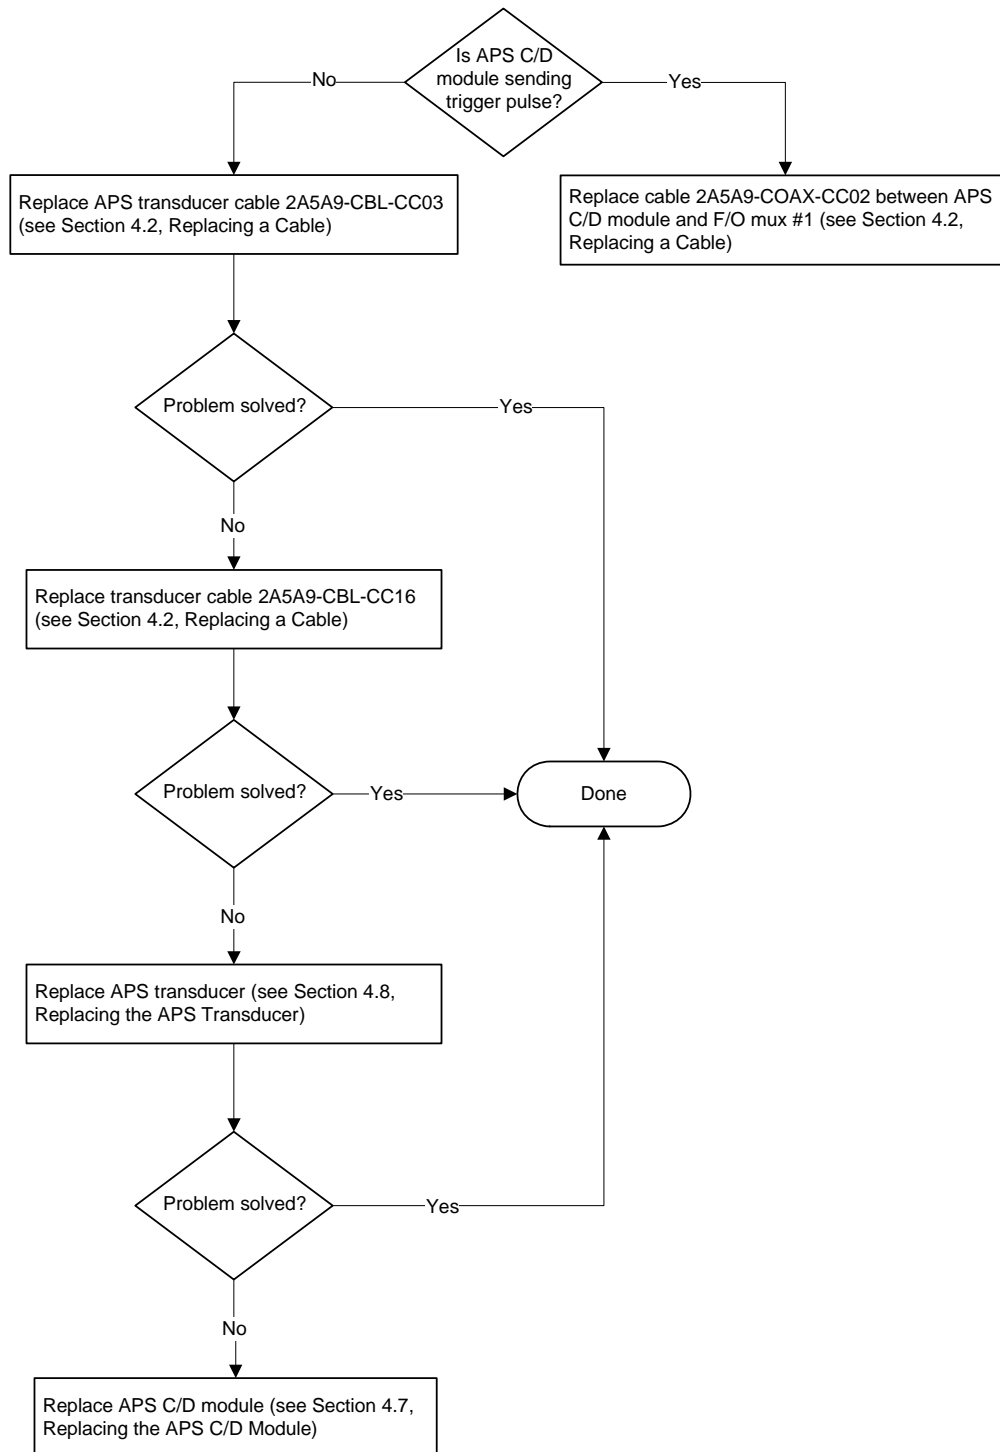

Figure 12 Troubleshooting – No Communication Between APS C/D Module and PRM Transponder
1. Follow the troubleshooting steps in Figure 12.